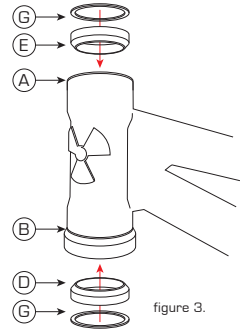

figure 3.
- 9) correct side up as shown in figure 3;
- 10) Carefully fit one of the [G] seals into each cup on top of the fitted bearings as shown in figure 3;